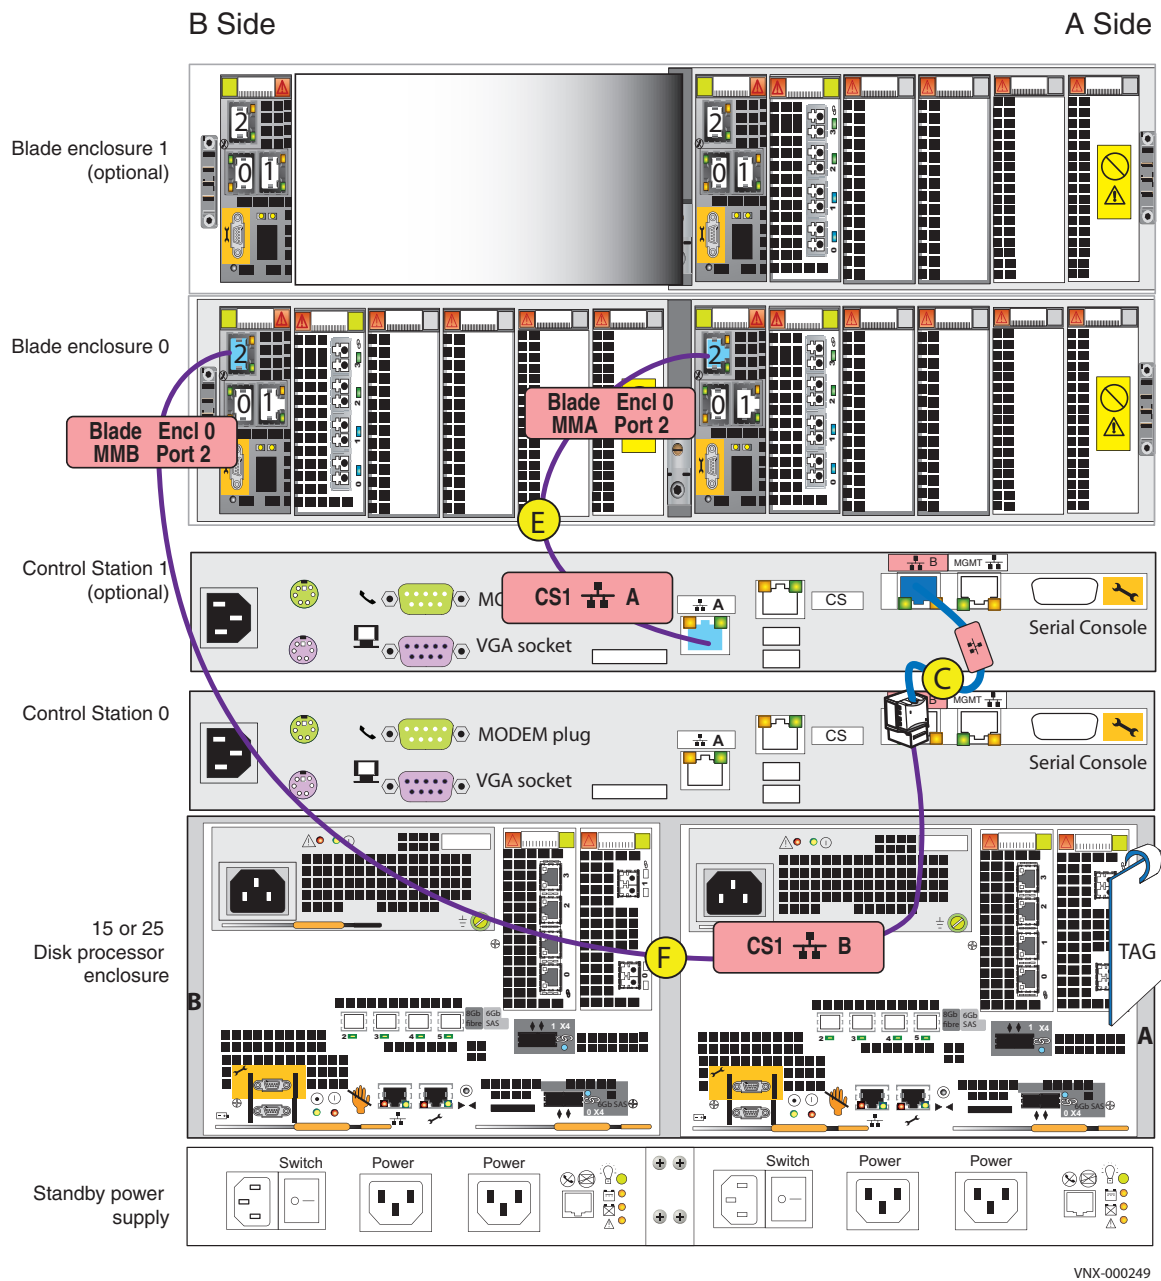

Figure 19 Cabling CS1 to blade enclosure 0
5. Connect CS1 A cable to Blade Enclosure 0 MMA port 2 as shown in Figure 19. **E**